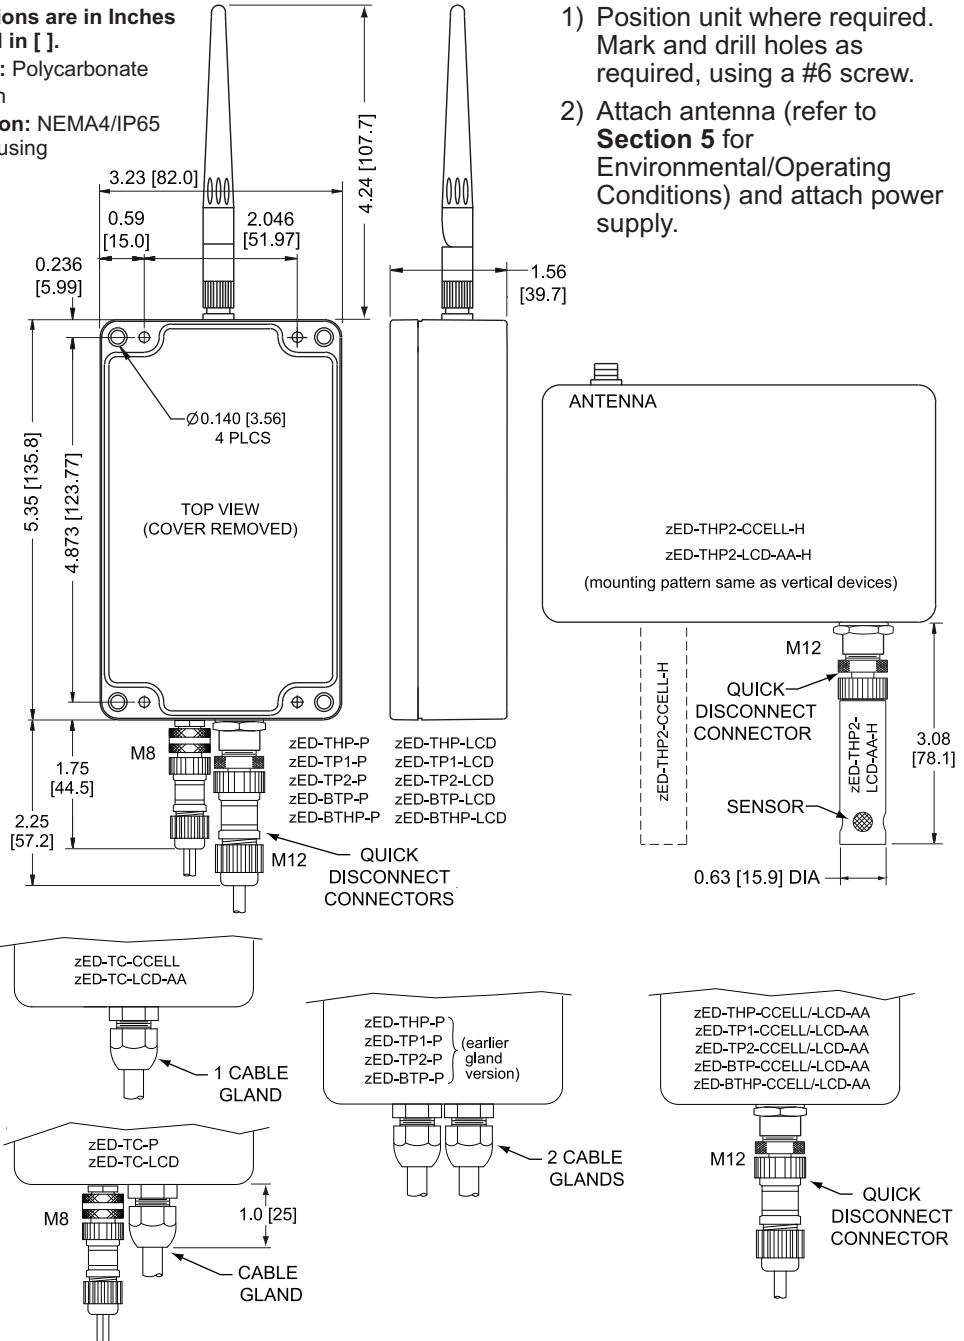

Figure 2.2a Mounting the End Device (zED-P/-LCD/-AA/-CCELL-H)
11	External probe/sensor, through cable gland (for zED-TC-x) or quick disconnect connector \triangle . Refer to Figure 2.2a for connector configurations.
12	External probe/sensor, through cable gland (for zED-TC-x) or quick disconnect connector  . Refer to Figure 2.2a for connector configurations.
12	External probe/sensor, through quick disconnect connector Δ . Refer to Figure 2.2a for connector configurations.
- To mount unit to wall. Refer to **Figure 2.2a** for mounting dimensions.